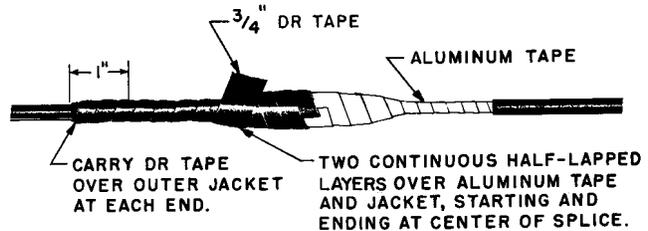

Fig. 12 – Taping Splice
4.07 Starting at the center of the splice, cover the splice with two half-lapped layers of 3/4-inch DR Tape, as shown in Fig. 12.